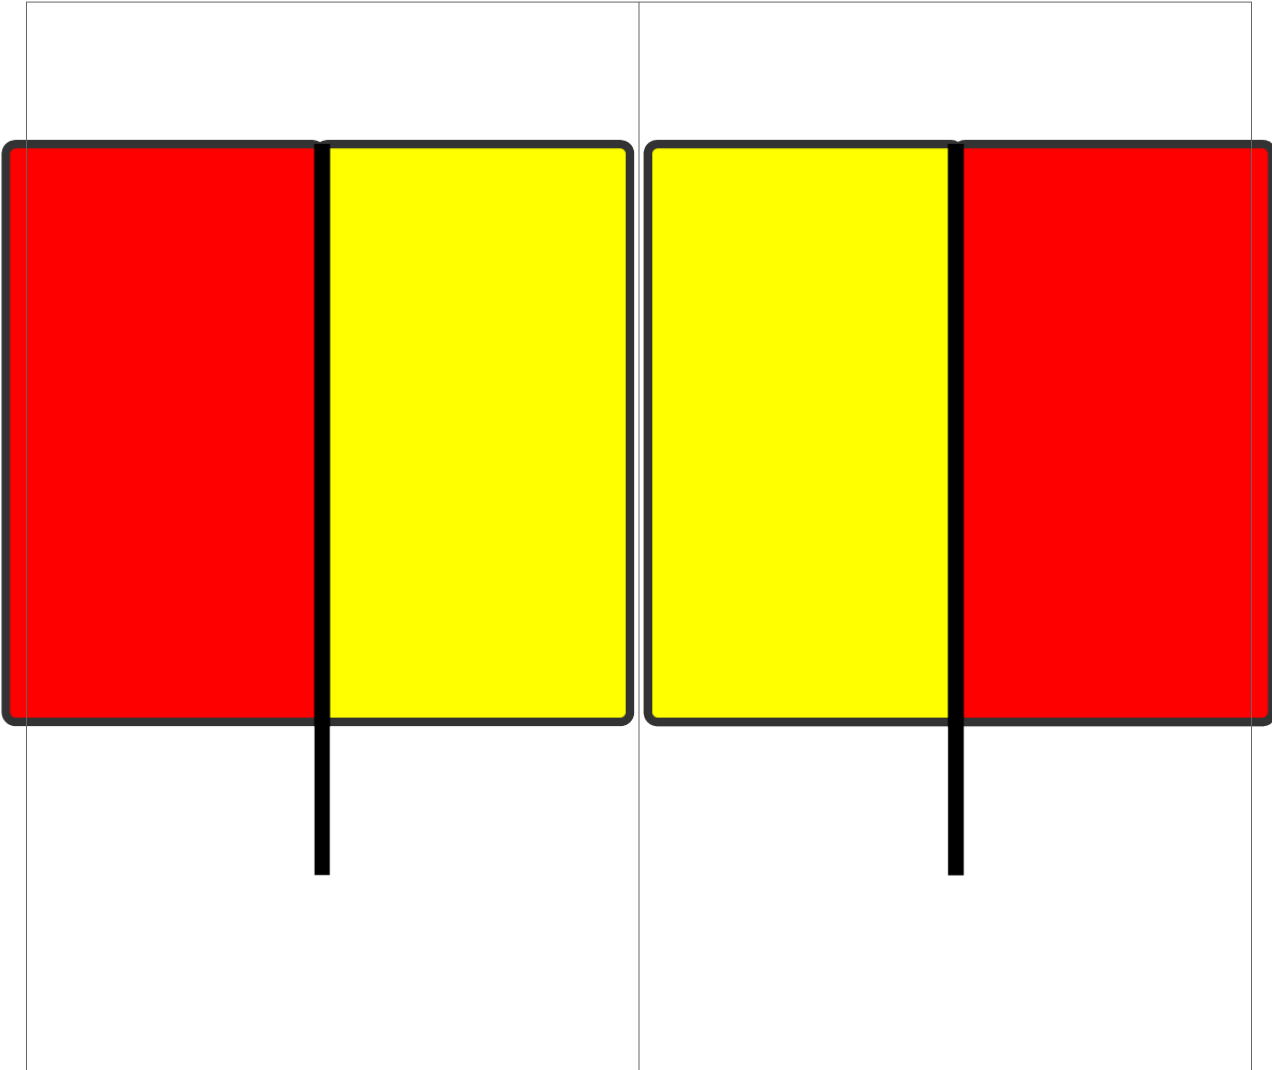
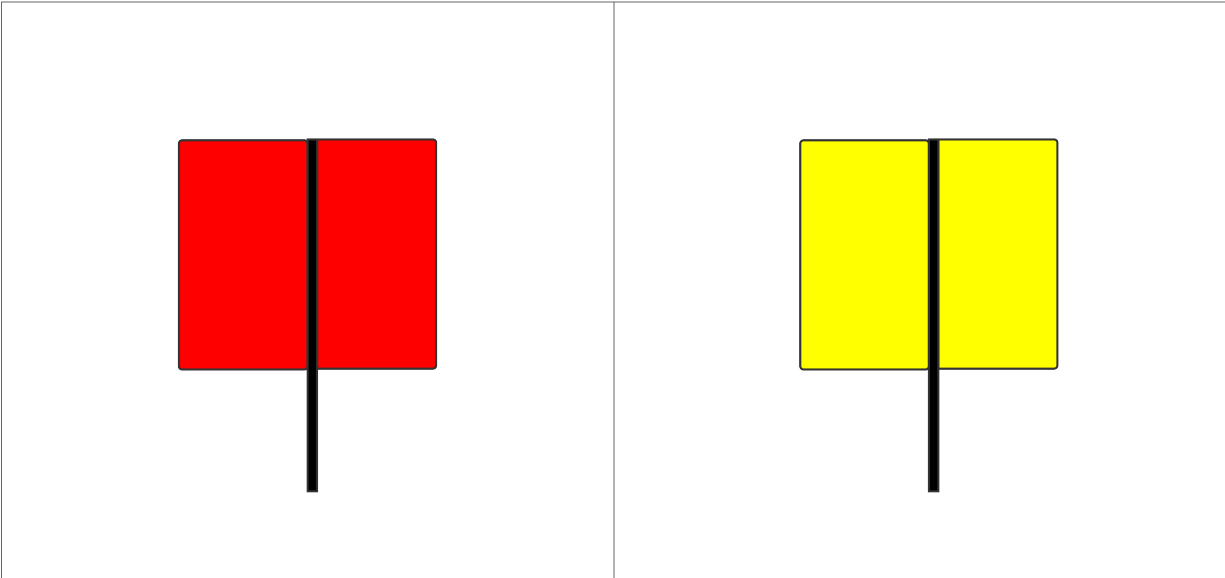

Figure 1: Yellow Target
Figure 2: Stop - Imperfectly Displayed Signal
- Figure 1: Points in normal - normal speed.
- Figure 2: Points in normal - maximum speed 25 km/h.
- Figure 1: Points set - yellow aspect indicates the direction of the route.
- Figure 2: If both targets display the same colour (red) in the facing direction, the points are mid-stroke and are not correctly set.
- Figure 1: Caution, prepare to stop at the compulsory stop board ahead.
- Figure 2: Sound whistle, prepare to stop at the compulsory stop board.
<p>Figure 1: Advance Warning Board</p>	<p>Figure 2: Inner Warning Board</p>